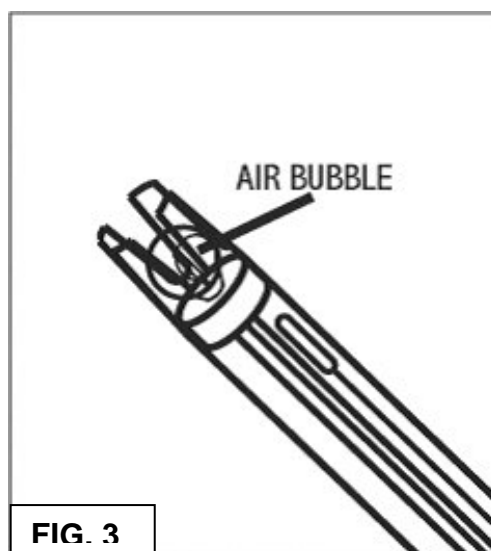

FIG. 3
2. During shipment the air bubble in the electrode's stem may move into the bulb area. If bubbles are seen in the bulb area, hold the electrode by its top cap and shake downward as is done with a clinical thermometer (See FIG 3).